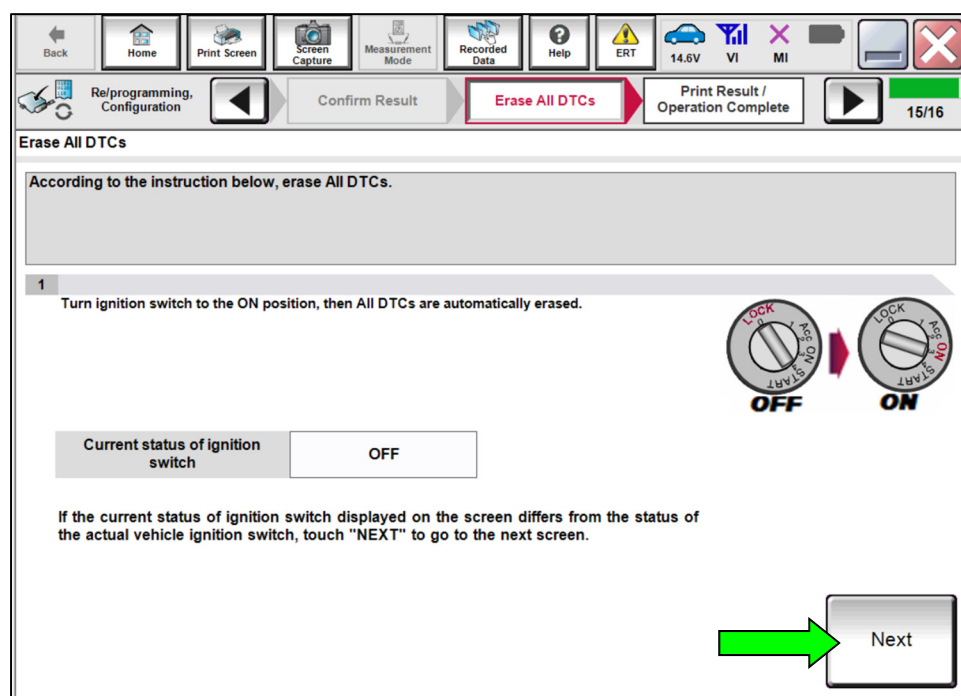

Figure 19
25. Press the power switch two (2) times to turn the EV system back on (Figure 19).